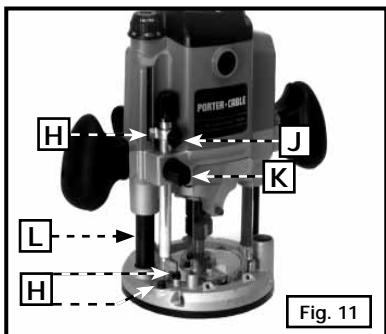
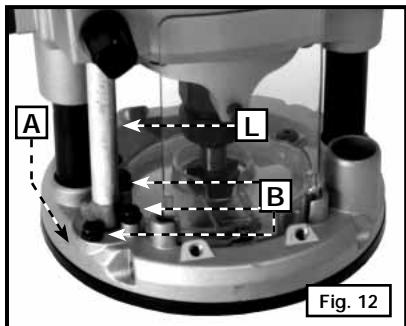

Fig. 11
Fig. 12
1. Loosen the depth rod-locking knob (K) Fig. 11, and the depth indicator knob (J) Fig. 11 to allow the depth rod (L) Fig. 11 to contact one of the depth stops (M) Fig. 11. Normally the deepest cut is set with the depth rod (L) Fig. 12 resting on the base casting (A) Fig. 12. Adjust the three adjustable stops (B) Fig. 12 to any desired height to allow for stock removal in steps. This action will prevent overloading the motor or the various depths that may be required for a particular job.
3. Tighten the depth rod-locking knob (K) Fig. 11.